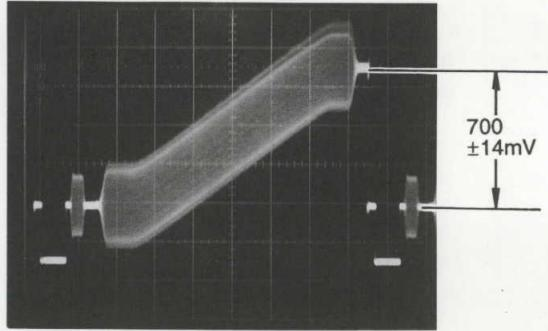

Fig. 4-16
- Adjust VR6 so that the white level of the RAMP signal becomes $700 \pm 14mV$ as shown in the Fig. 4-16.